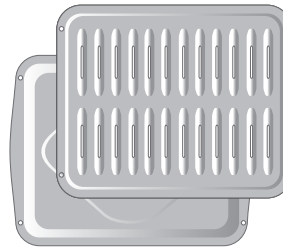

Figure 27: Broiler pan/insert
- For best results use a broil pan with broil pan insert designed to drain the fat from the food and help avoid spatter and reduce smoking (Figure 27). If a broiler pan and insert are not supplied with this appliance, they may be purchased from frigidaire.com.